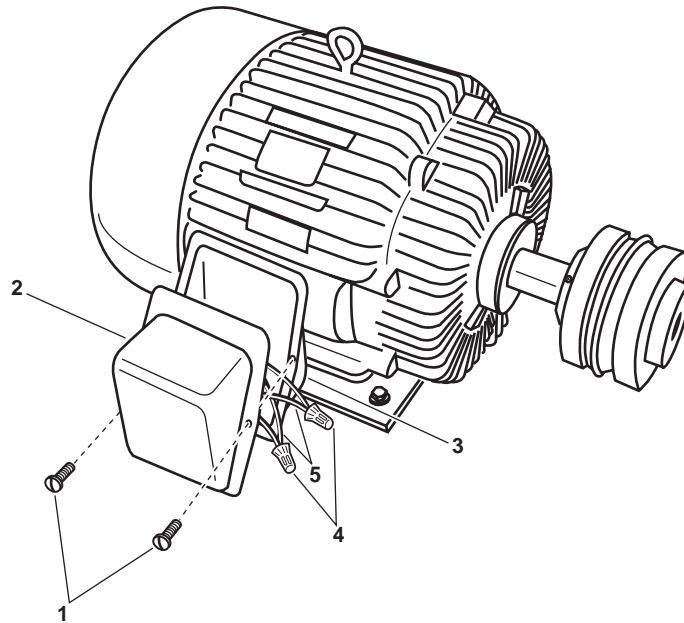

Figure 1. AFFF Pump Motor Junction Box
1. Remove the two screws (figure 1, item 1) that secure the junction box cover (figure 1, item 2).
2. Remove the junction box cover (figure 1, item 2) from the junction box (figure 1, item 3).
3. Using a multimeter, check for available voltage at the wire nuts (figure 1, item 4) in the junction box (figure 1, item 3). If voltage is present, check that the proper circuit breaker is OFF, locked out, and tagged out (FM 55-502). If no voltage is present, continue with the procedure.
4. Label and disconnect the wiring (figure 1, item 5).